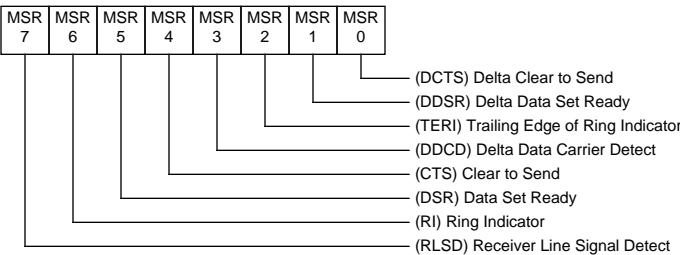

Figure 7. Modem Status Register
MSR(0)-MSR(3) is set to a one. The MSR is a priority 4 interrupt. The contents of the Modem Status Register are described in *Figure 7* and the following table.